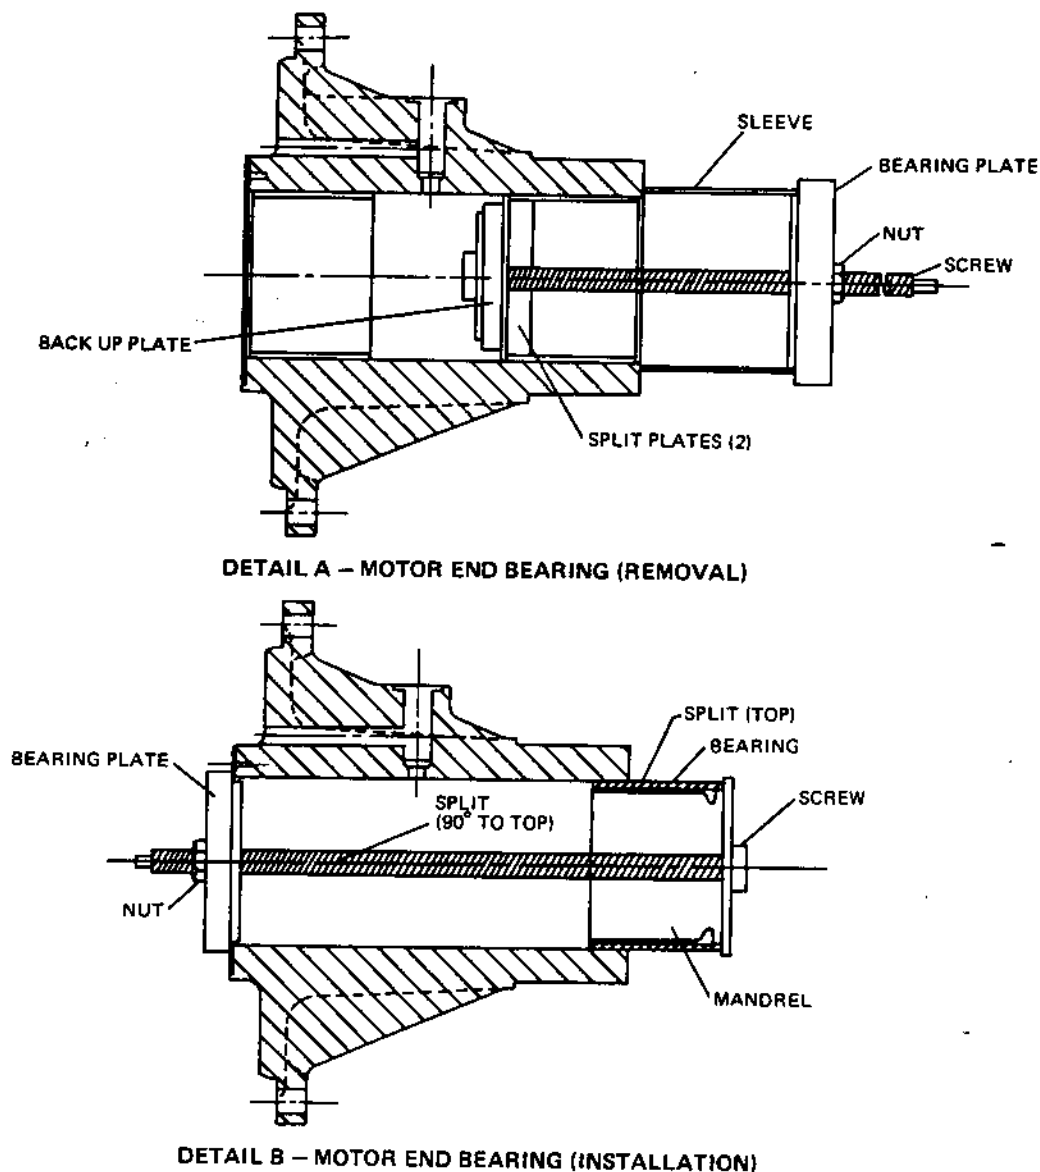

FIG. 22 – MOTOR END BEARINGS
7. Using the bearing removal tool as shown in Fig. 22, Detail A, remove the old bearings from the housing. Bearings are removed one at a time in a similar manner from opposite ends of the bearing head.
9. Using the bearing removal tool as shown in Fig. 22, Detail B, pull the bearings into the bearing head one at a time from opposite ends, taking care that the bearings enter to bearing head squarely. Note that the "split" in one bearing should be at the top; the "split" in the second bearing should be turned 90° to either side. Continue to pull the bearings into the head until they are 1/32" below the end surfaces of the bearing head.